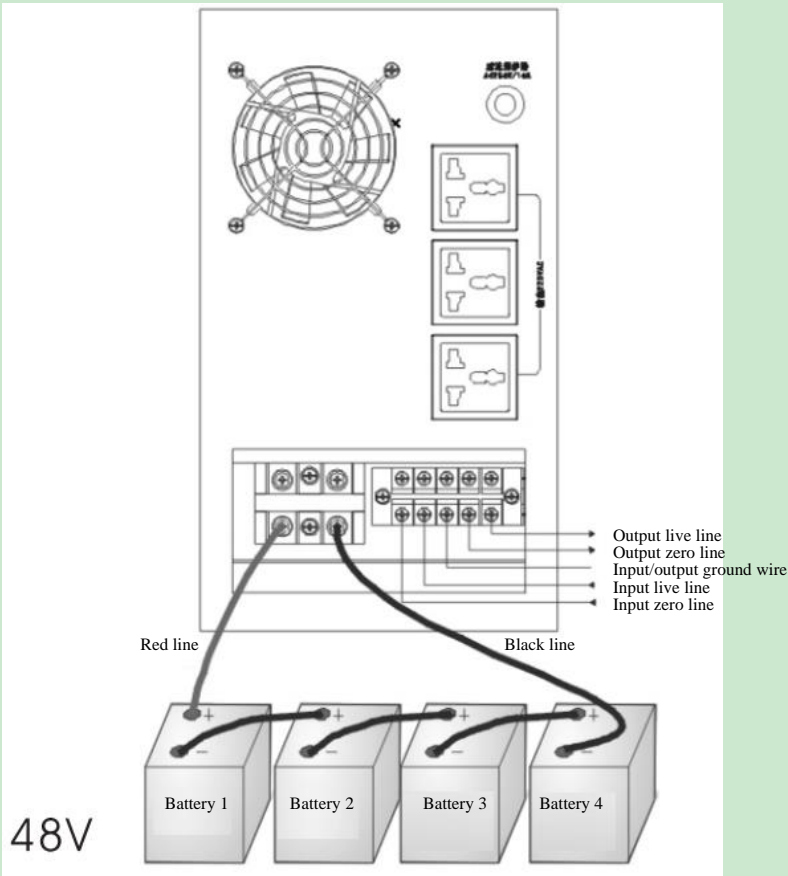

Fig. 3-2 NB-1500, NB-2000, and NB-3000 battery wiring
- 3) The battery inputs of NB-1500, NB-2000 and NB-3000 adopt the terminal block form, and the battery connecting wire is first connected to the battery end (do not connect it to the inverter end first, otherwise there may be a risk of electric shock); the red line is connected to the positive pole "+" of the battery, and the black line is connected to the negative pole "-" of the battery, as shown in Fig. 3-2.